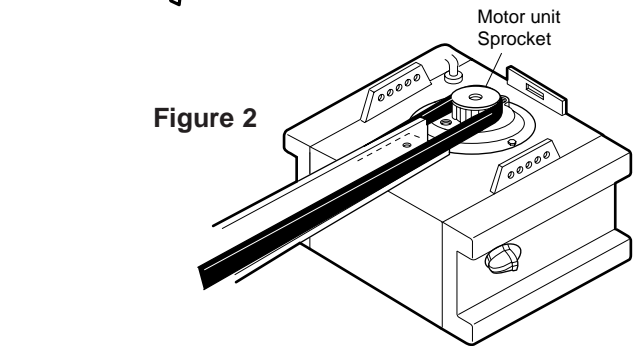

Figure 2
4. With the trolley against the screwdriver, dispense the belt along the rail and around the motor unit sprocket. The sprocket teeth must engage the belt (Figure 2).